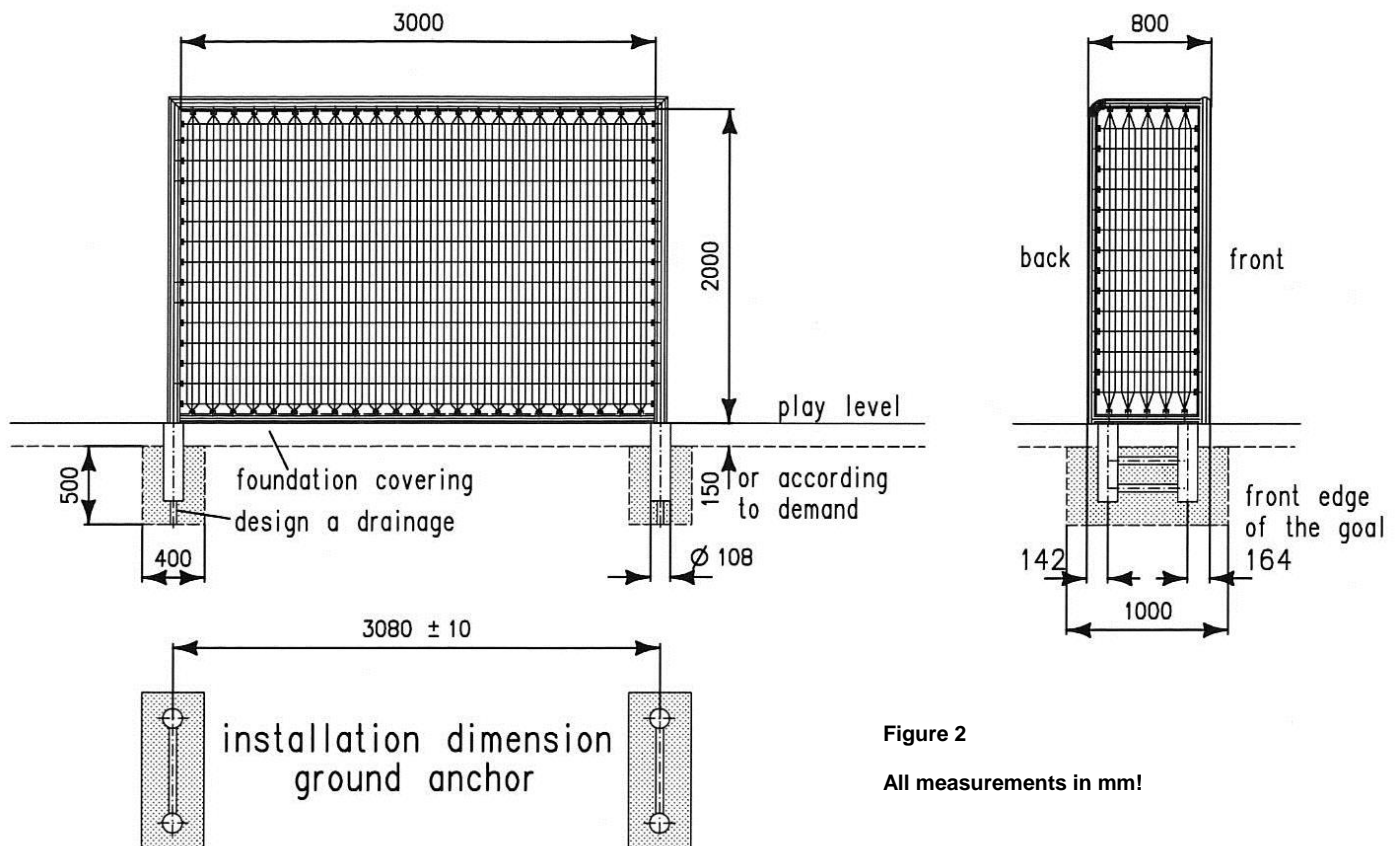
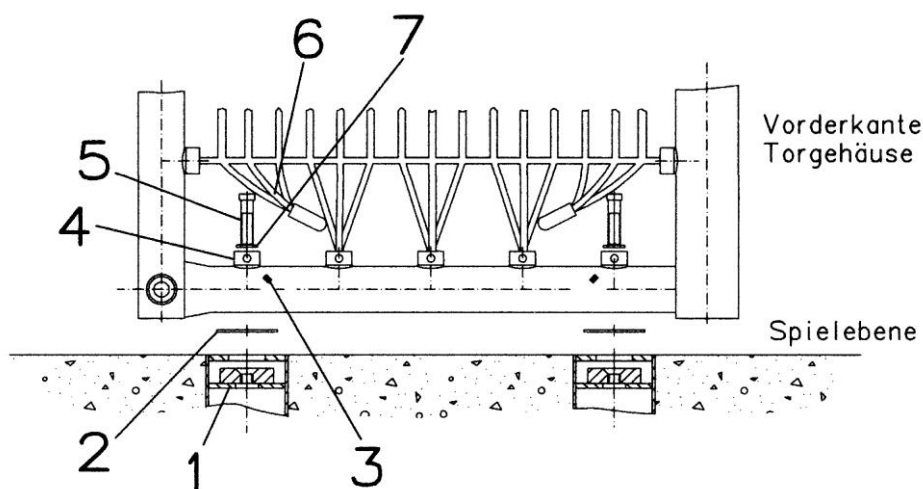

Figure 2
Figure 4
The ground anchors are to be set into the concrete foundations on the same level as the play level. Please make sure that the side with the movable slide block shows to the top (figure 4). We have calculated a depth of 150 mm for the sub-construction of the play level. According to this, the top edge of the foundations C20/25 (B25) is 150 mm below play level. When placing the concrete, a drainage is to be provided (**Figure 2**).
The **ROWOCON®-sleeves (4)** in the side parts of the smb-citytor original II are to be provided with **screws M16 (5)** and **lock washers (7)**. The **ropes (6)** of the goal net are not fixed at this point (**Figure 4**).
- *If there is a noticeable instability / tilting, check the respective boltings and re-tighten. See figure 4 for the procedure.*